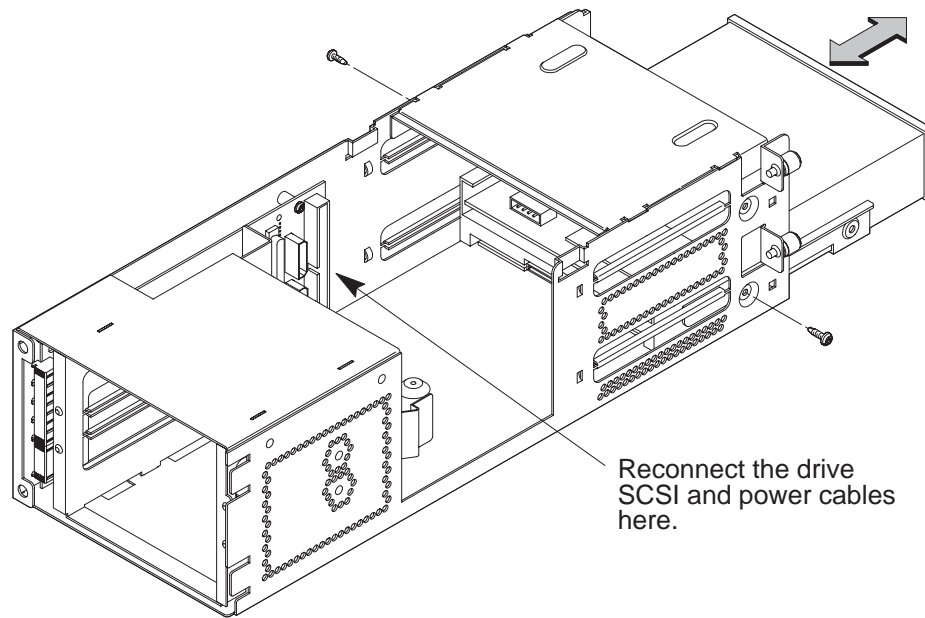

Figure B-15. Replacing Drive Screws
14. With the disk mounting bracket between the guides on each side of the Storage Assembly, slide the disk into the Storage Assembly, securing it with the two side screws. See Figure B-15. Do not over-tighten the side screws.